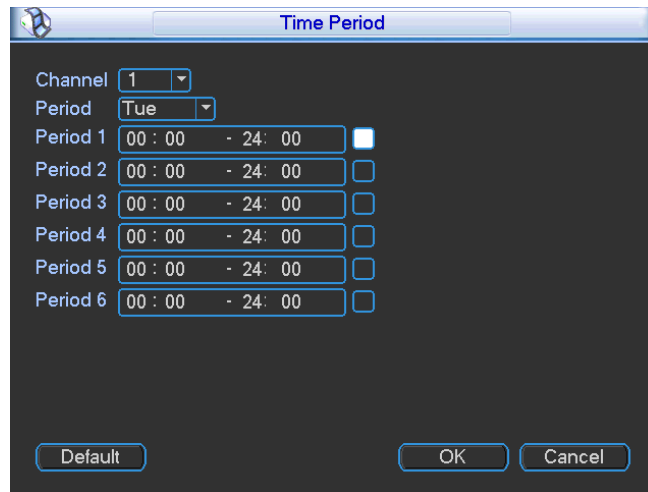

Figure 4-44
- ✧ Schedule: Click it; you can see an interface shown as in Figure 4-44. Here you can set snapshot period.